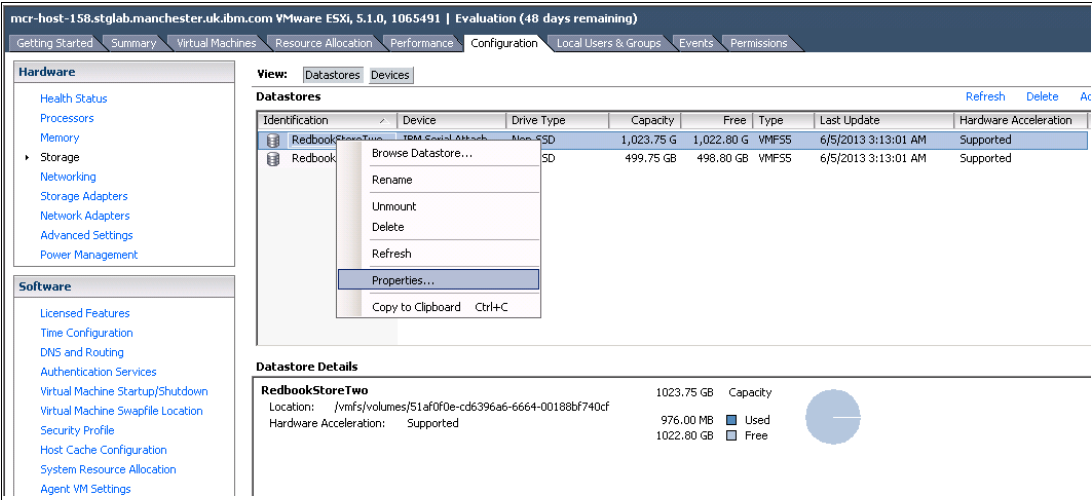

Figure 5-93 Datastore properties
14.Highlight the new Datastore and click **Properties** to open and review the Datastore settings, as shown in Figure 5-93.